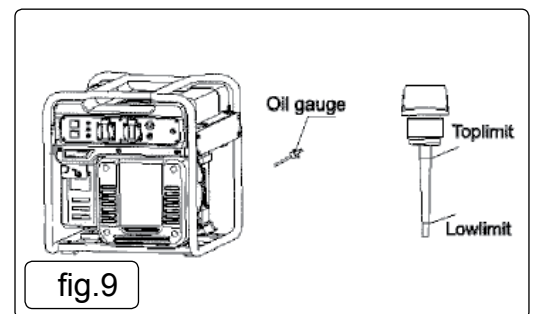

fig.9
- 4.8.4. Replace oil gauge fig.9.